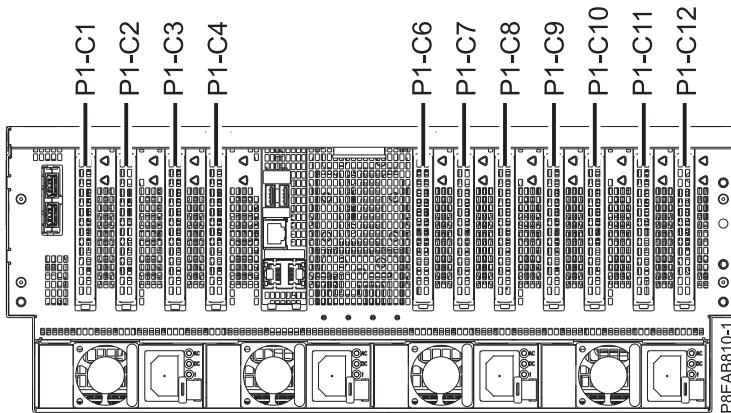

Figure 24. PCIe adapter slot locations in the 8408-44E or 8408-E8E system
6. Familiarize yourself with the locations of the PCIe adapter slots. The PCIe adapters are installed in the rear of the system. Figure 24 on page 37 shows the locations of the PCIe adapters in an 8408-44E or 8408-E8E system.